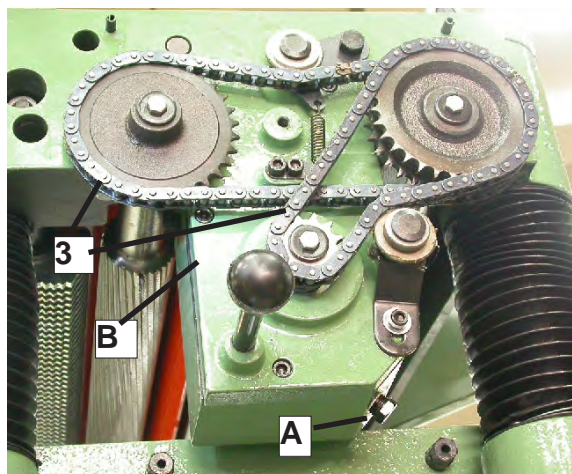

Fig 4
1. Remove the drain plug ( A ). Fig 4 and tiller Cap ( B ) ,Drain dirty oil thoroughly.